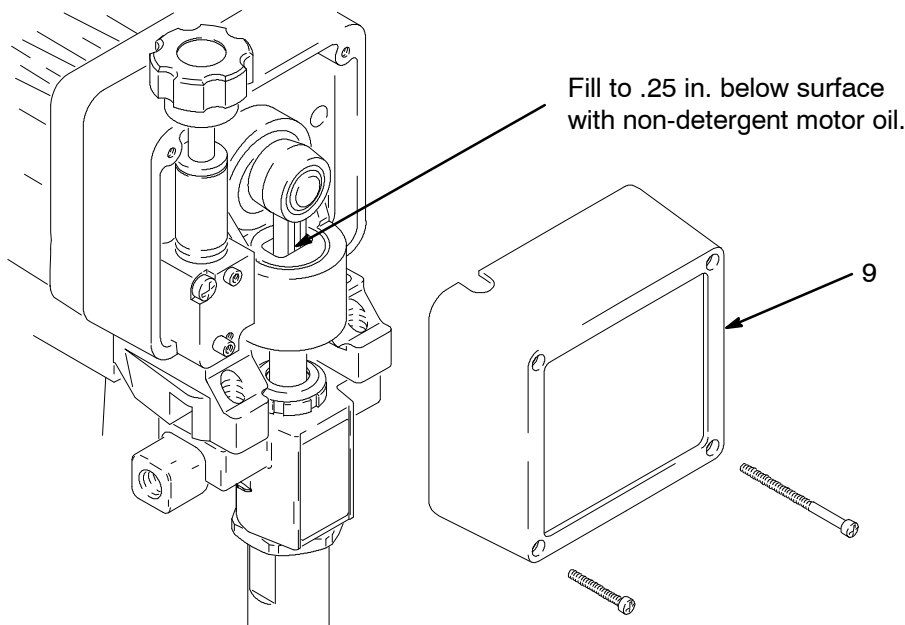

Fig. 7
MONTHLY: Remove the front cover (9) and fill the cavity in the connecting rod with non-detergent motor oil 1/4 in. below the surface. See Fig. 7.